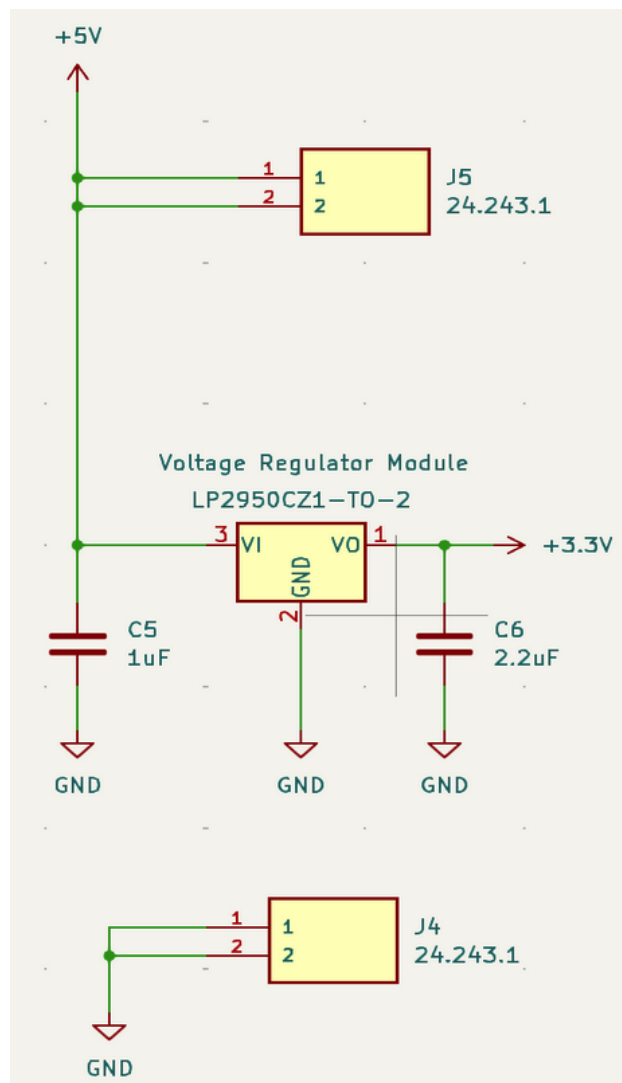

Figure 3: Enter Caption
- **Figure 3:** Power schematic (KiCad)